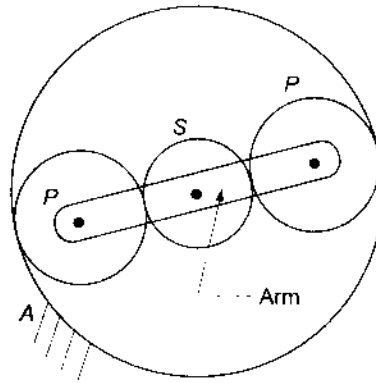

Fig.12.36 Epicyclic gear train
- 15** An epicyclic gear train as shown in Fig.12.36, has a sun wheel S of 30 teeth and two planet wheels $P-P$ of 45 teeth. The planet wheels mesh with the internal teeth of a fixed annulus A . The driving shaft carrying the sun wheel transmits 4 kW at 360 rpm. The driven shaft is connected to an arm, which carries the planet wheels. Determine the speed of the driven shaft and the torque transmitted, if the overall efficiency is 95%.